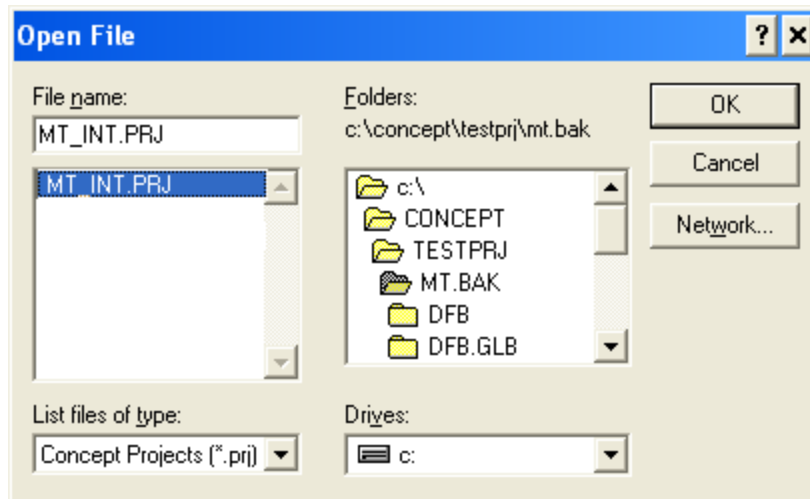

Figure 5-6: Project Selection Dialog
1. Open a project by accessing the file menu and selecting OPEN, then selecting the project. In this example, the project is named MT_INT.PRJ (Figure 5-6).